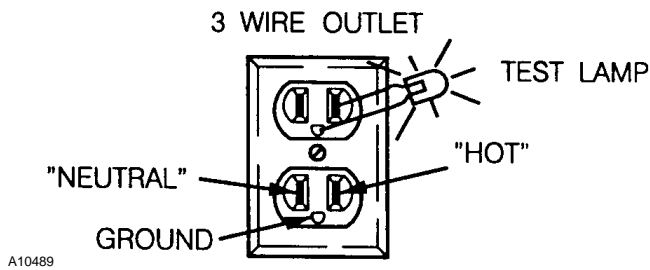
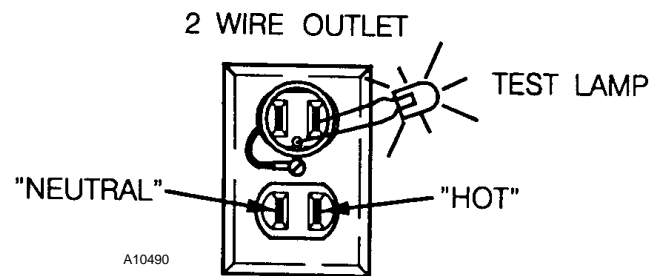

Figure 2. Wire Outlet
Figure 3. Wire Outlet
Shown in Figure 2 and 3 are two (2) properly grounded and polarized wall outlets. Figure 2 is a three-wire grounding type wall outlet. Figure 3 is a two-wire outlet with a three-plug adapter in place.